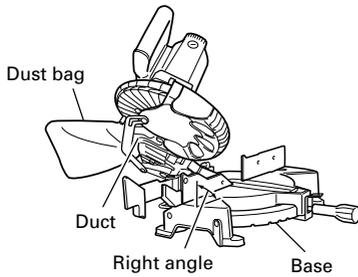

Fig. 3
- (2) During bevel and compound cutting, attach the dust bag at a right angle to the base surface as shown in Fig. 3.